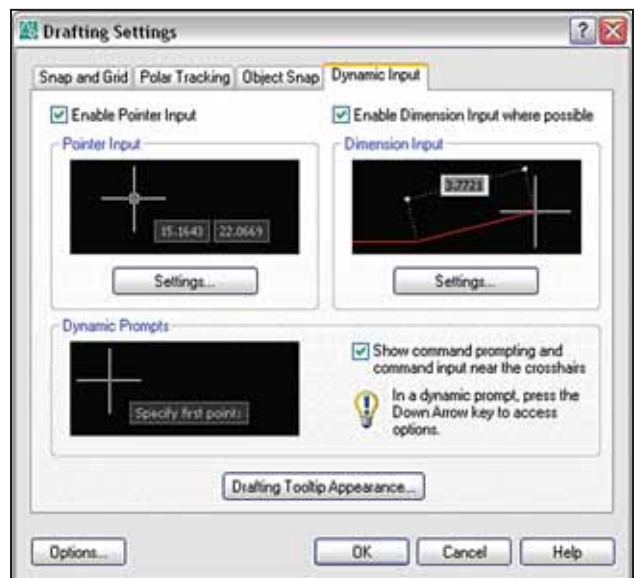

Figure 4. Turn on the Dynamic Input function to make the command line follow your cursor.
- Right-click on DYN to view the Dynamic Input tab of the Drafting Settings dialog (Figure 4). Here you can indicate how much (or how little) information you want to display.